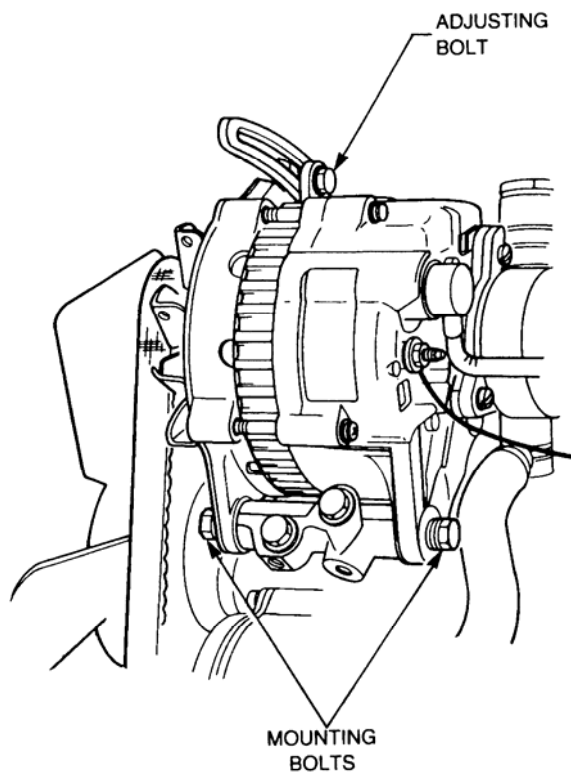

Figure 2 Fanbelt Replacement
- d. Loosen the 12 volt alternator mounting bolts and adjusting bolt (refer Figure 2).